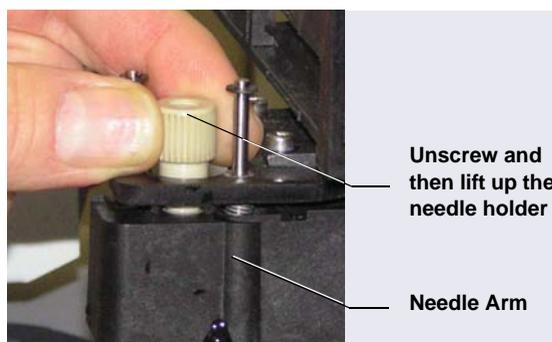

Figure 5-2. Removing the Needle
4. Unscrew the needle holder from the horizontal needle arm (see Figure 5-2).